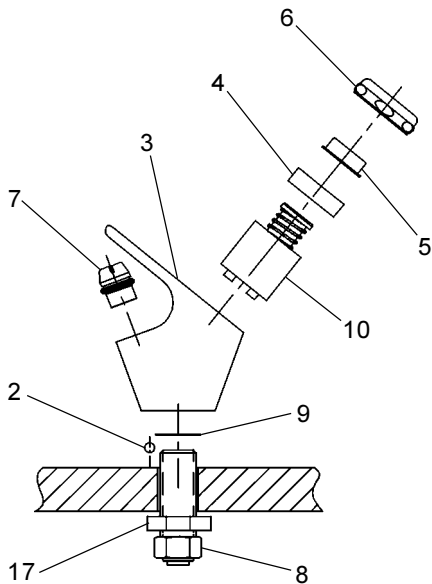

FIG. 5
7. **Check stream height from bubbler.** Stream height is factory set at 45-50 PSI. If supply pressure varies greatly from this, remove items 5 and 6 (See Figure 5, Page 4) by loosening set screw (item 15) and adjust the screw on regulator (item 10). Clockwise adjustment will raise stream height and counter-clockwise adjustment will lower stream height. For best adjustment stream height should be approximately 1" (25mm) above the bubbler guard. (See Figure 4, Page 4).
SEE FIG. 5